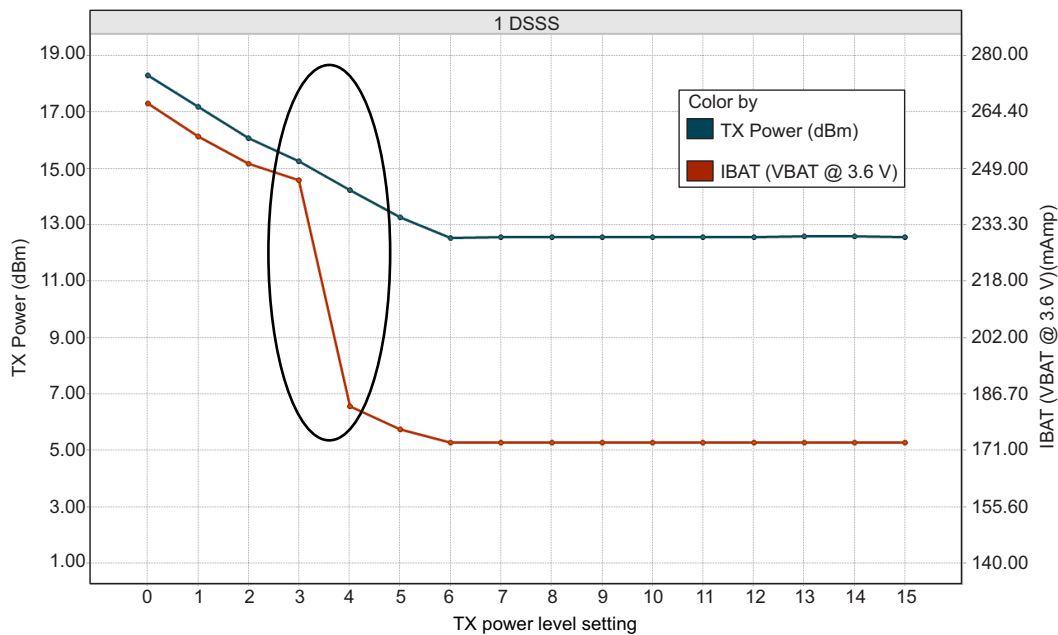
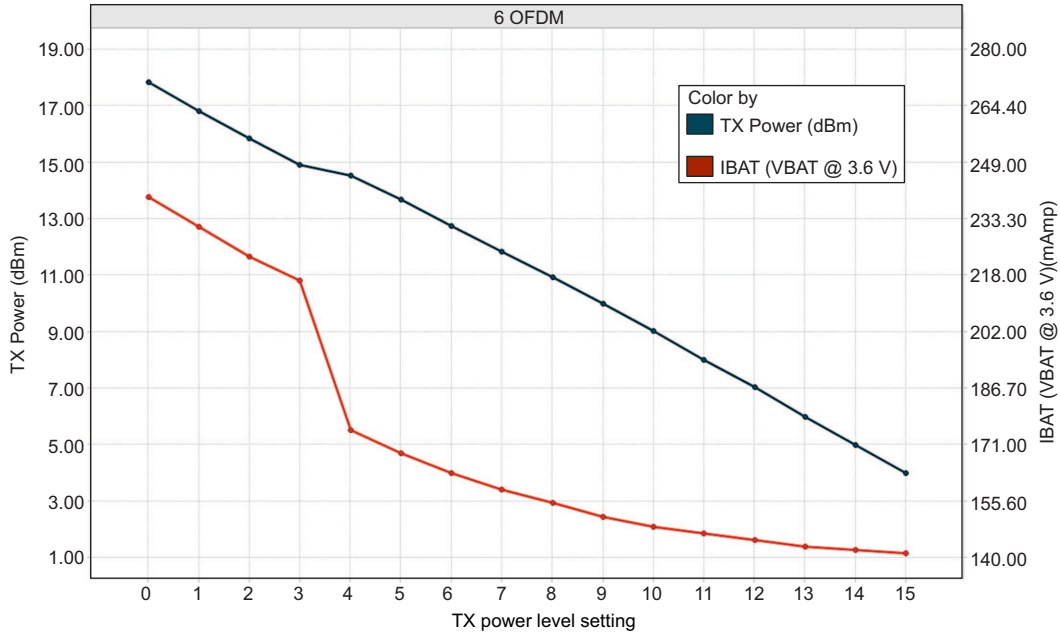
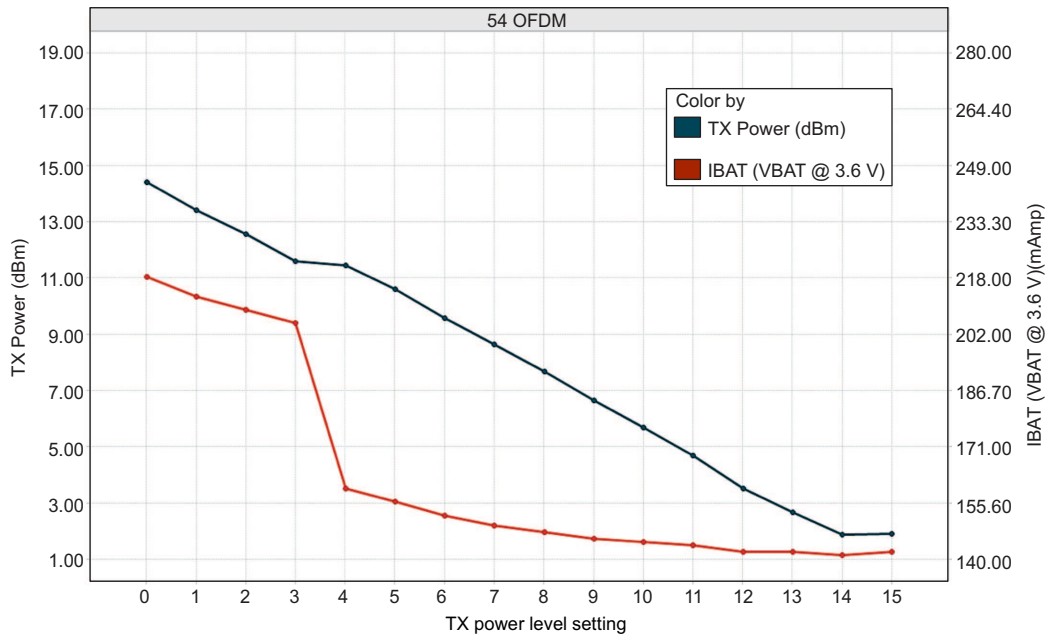

Figure 5-1. TX Power and IBAT vs TX Power Level Settings (1 DSSS)
Figure 5-2. TX Power and IBAT vs TX Power Level Settings (6 OFDM)
Figure 5-3. TX Power and IBAT vs TX Power Level Settings (54 OFDM)
- (1) TX power level = 0 implies maximum power (see Figure 5-2, Figure 5-2, and Figure 5-3). TX power level = 4 implies output power backed off approximately 4 dB.
- (2) The CC3235MODAS system is a constant power-source system. The active current numbers scale based on the V_{BAT} voltage supplied.
- (3) Typical numbers assume a VSWR of 1.5:1.
- (4) DTIM = 1
- (5) LPDS current does not include the external serial flash. The and can be configured to retain 0 KB, 64 KB, 128 KB, 192 KB, or 256 KB of SRAM in LPDS. Each 64-KB block of MCU retained SRAM increases LPDS current by 4 μA.
- (6) The complete calibration can take up to 17 mJ of energy from the battery over a period of 24 ms. Calibration is performed sparingly, typically when coming out of HIBERNATE and only if temperature has changed by more than 20°C. The calibration event can be controlled by a configuration file in the serial flash.
Figure 5-1, Figure 5-2, and Figure 5-3 show TX Power and IBAT versus TX power level settings for the CC3235MODS module at modulations of 1 DSSS, 6 OFDM, and 54 OFDM, respectively. For the CC3235MODSF module, the IBAT current has an increase of approximately 10 mA to 15 mA depending on the transmitted rate. The TX power level will remain the same.
In Figure 5-1, the area enclosed in the circle represents a significant reduction in current during transition from TX power level 3 to level 4. In the case of lower range requirements (14-dBm output power), TI recommends using TX power level 4 to reduce the current.